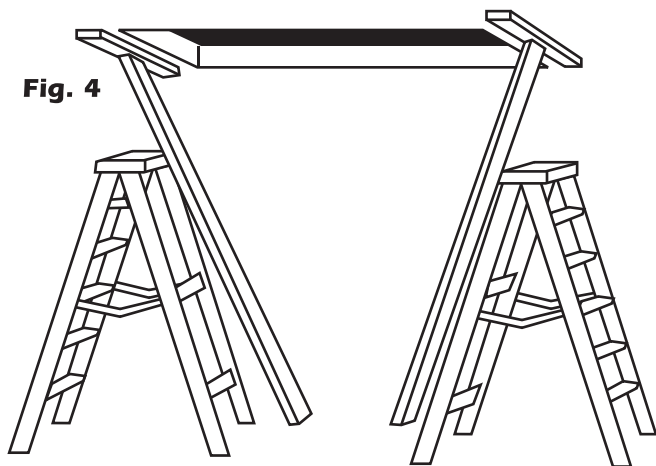

Fig. 4
Step 3– Place two stepladders directly under rough opening with steps facing out on both ladders. Place two "T" stands inside of stepladders. NOTE: Sheet rock jacks can be used in the place of "T" stands. (See Fig. 4)